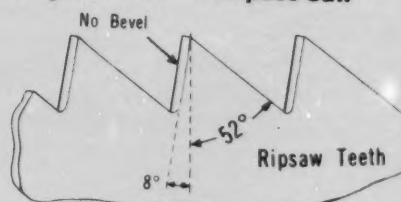

Figure 1-104. Tooth Specifications for Rip-saw Blade
c) The main difference between a rip-saw and a crosscut saw is in the shape of the teeth. A tooth with a square-faced, chisel-type cutting edge like the rip-saw tooth seen in Figure 1-104 does a good job of cutting with the grain of the wood (called ripping), but a poor job of cutting across the grain.